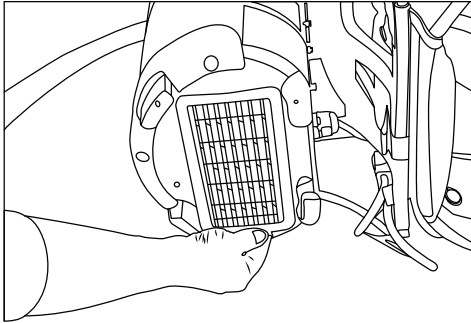

Fig. 16
2. Detach the exhaust filter holder from the bottom of the unit (**Fig. 16**)